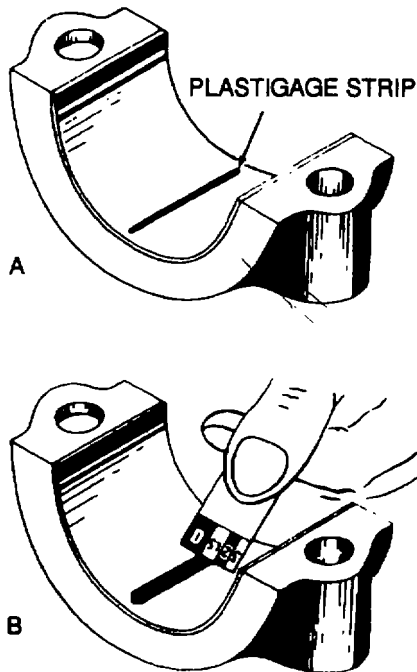

Figure 9-32. Using Plastigage to Determine Bearing Clearance
- (4) Place a strip of Plastigage across the full width of the bearing shell in the rod cap (A, Figure 9-32).
- (6) Remove the bolts (1), washers (2), and connecting rod cap (3). Compare the width of the compressed Plastigage to the graduations on the Plastigage envelope (B. Figure 9-32). This is the connecting rod journal clearance and must conform to the specifications in Table 1-4.
- (9) Place a strip of Plastigage across the entire width of the bearing shell in the cap (see A, Figure 9-32).
- (11) Remove the capscrews (16), washers (17), and main bearing cap (18), and compare the width of the Plastigage to the graduations on the Plastigage envelope (see B, Figure 9-32). This is the main bearing journal clearance and must conform to the specifications in Table 1-4.